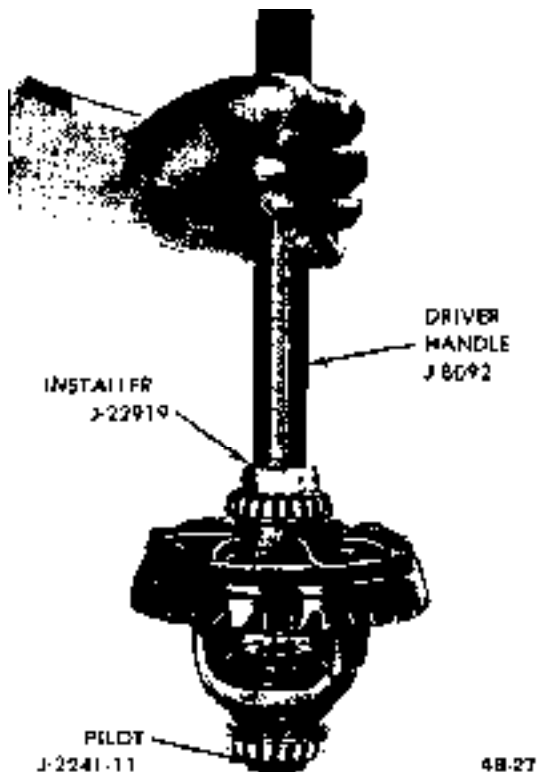

Figure 4B-27 Installing Differential Side Bearings
11. Install side bearings using installer J-22919 and drive handle J-8092. Support opposite side of case on pilot J-2241-11 to prevent bearing damage. See Figure 4B-27.